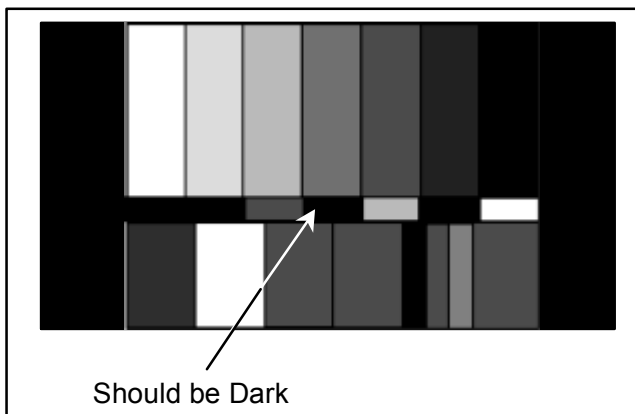

Fig.7 Brightness Adjustment
2. Turn "On" the color bare mode in the camera recorder as shown in figure 7.